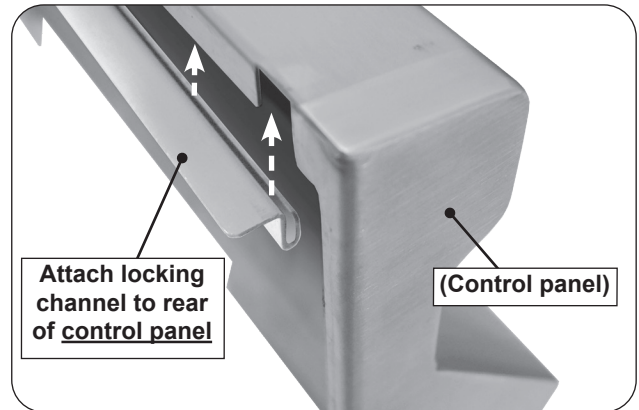

Fig. 30-1 Attach cooking grid locking channel
1. Attach the cooking grid locking channel to the rear top lip of the control panel (see Fig. 30-1).